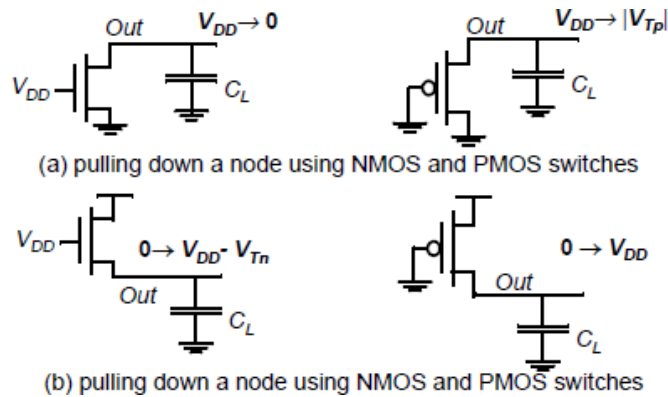

Figure 2 Simple examples illustrate why an NMOS should be used as a pull-down, and a PMOS should be used as a pull-up device.
- Fig 2 uses a CMOS transmission gate in place of the single nMoS pass transistor to offer rail-rail output swings.
- The PDN is constructed using NMOS devices, while PMOS transistors are used in the PUN. The primary reason for this choice is that NMOS transistors produce “strong zeros,” and PMOS devices generate “strong ones”. To illustrate this, consider the examples shown in Figure 2. In Figure 2.a, the output capacitance is initially charged to VDD.
- NMOS transistors are hence the preferred devices in the PDN. Similarly, two alternative approaches to charging up a capacitor are shown in Figure 2.b, with the output initially at GND. A PMOS switch succeeds in charging the output all the way to VDD, while the NMOS device fails to raise the output above $V_{DD} - V_{Tn}$. This